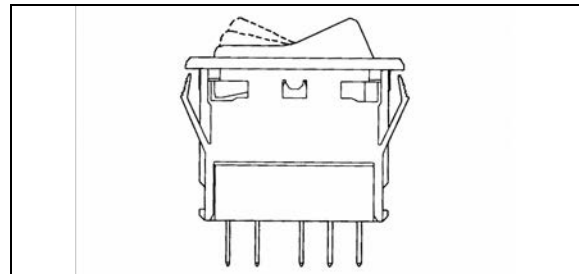

FIGURE 56: SWITCH
3. To install a new switch, reverse the procedure (Fig. 56).